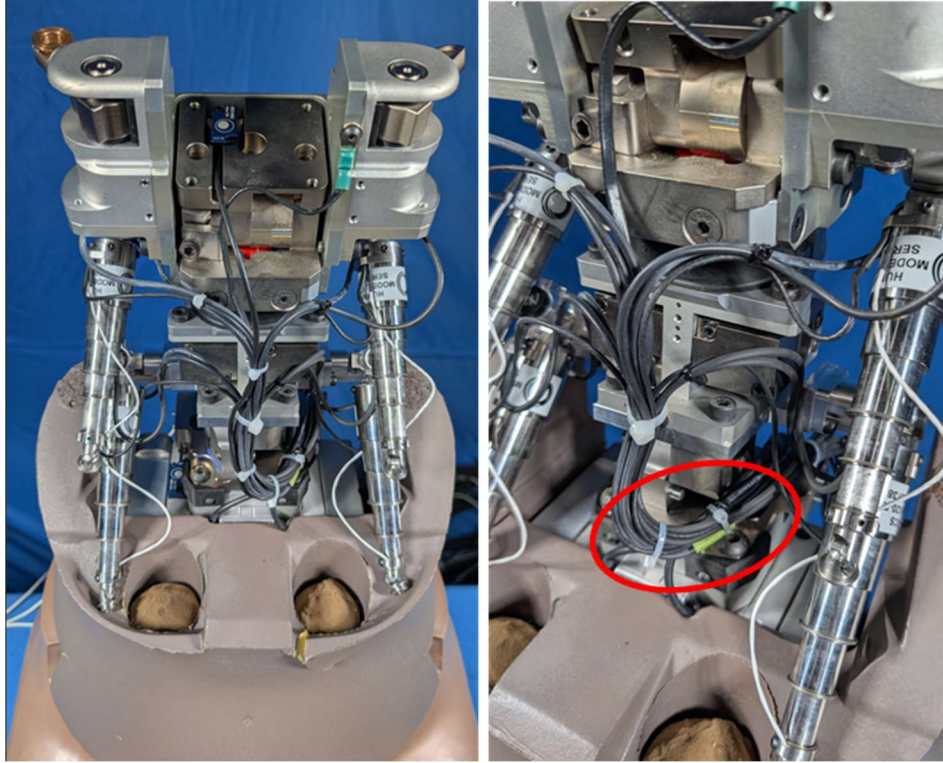

Figure 13-22. Wiring routing for thorax instrumentation
13.4.2.1 Route the thoracic load cell wires, tilt sensor wires, and all four IR-TRACC assembly wires down through the front of the spine and out the rear, left side, next to the lumbar spine pitch change assembly as shown (Figure 13-22).